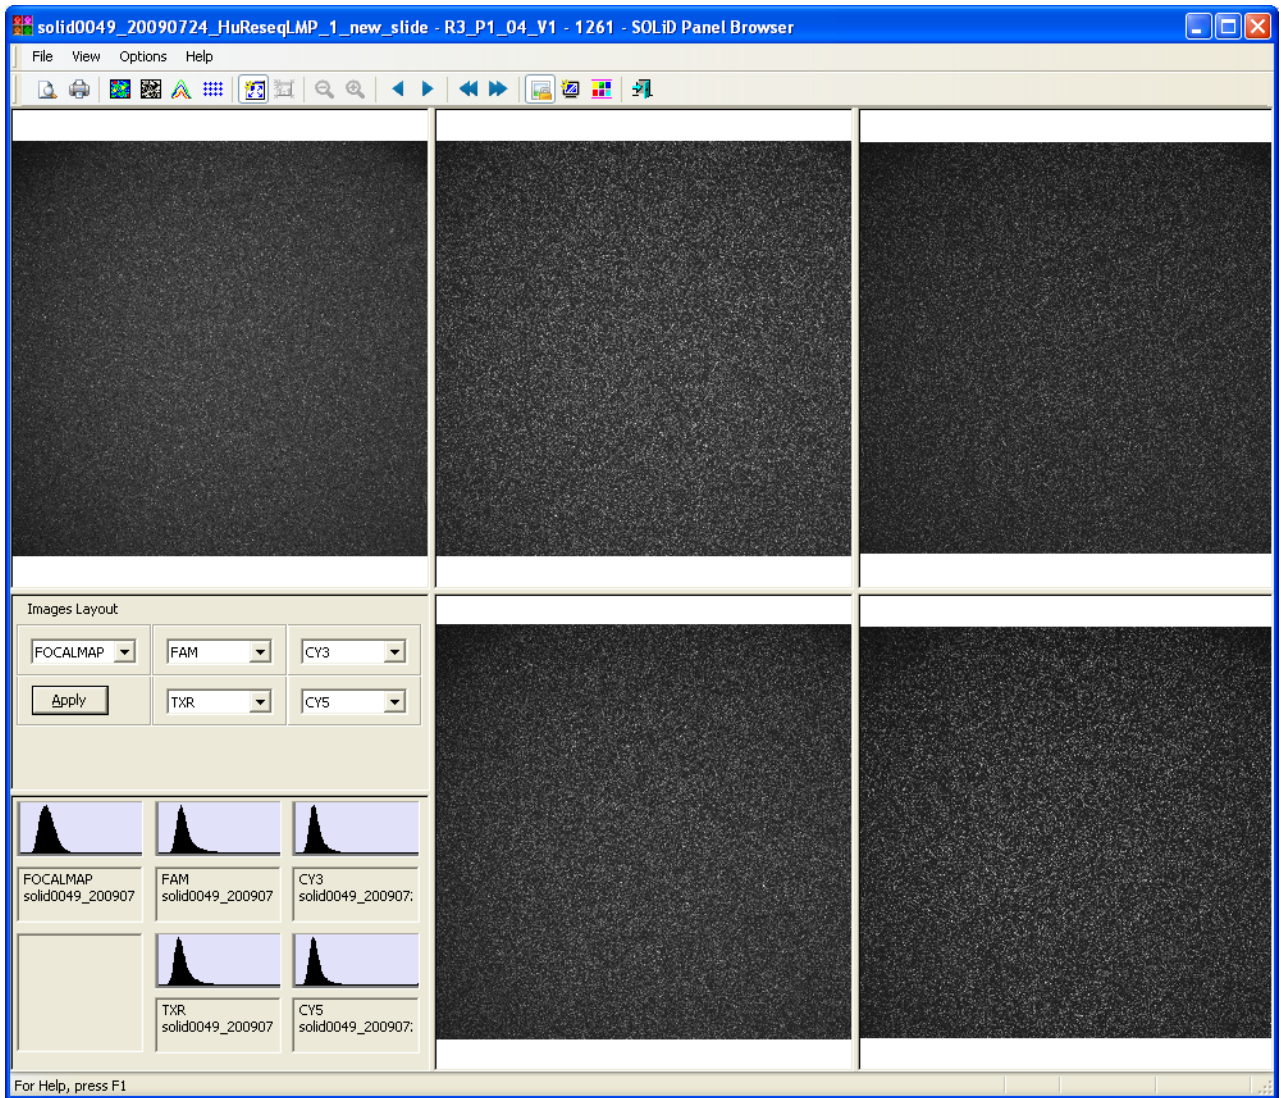

Figure 69 View the focal map and the image for each fluorescent dye signal.
- Left-click any square panel on the heat map to open the panel browser window. The panel browser allows you to view the focal map and the image for each fluorescent dye signal (see Figure 69).